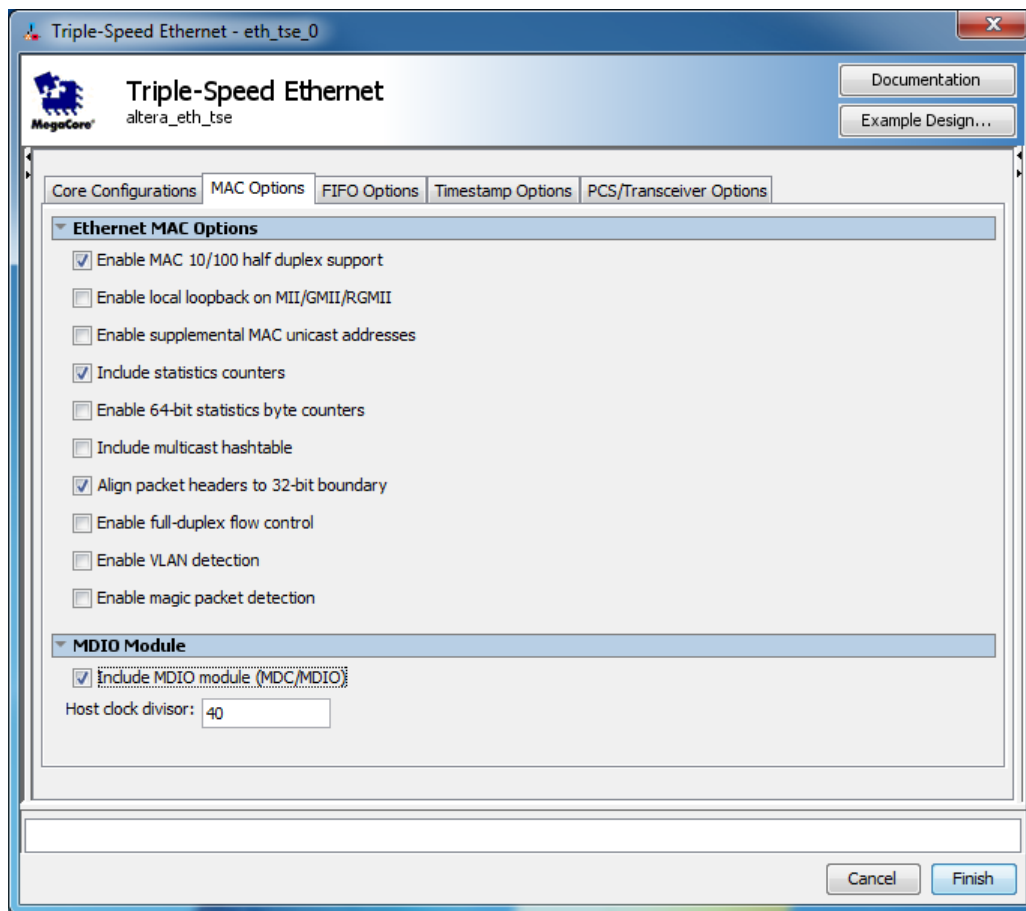

Figure 6. Settings for the Triple-Speed Ethernet MegaCore.
- Select the following options: **Enable MAC 10/100 half duplex support**, **Include statistics counters**, **Align packet headers to 32-bit boundary**, and **Include MDIO module (MDC/MDIO)**, as shown in Figure 6.